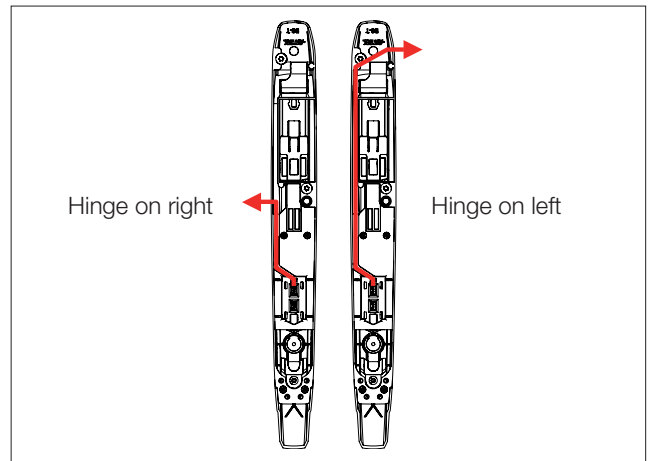

Fig. 19: Inserting the cable
- Pass the cable through the opening in the designer compensating panel depending on the door hinge (fig. 19)